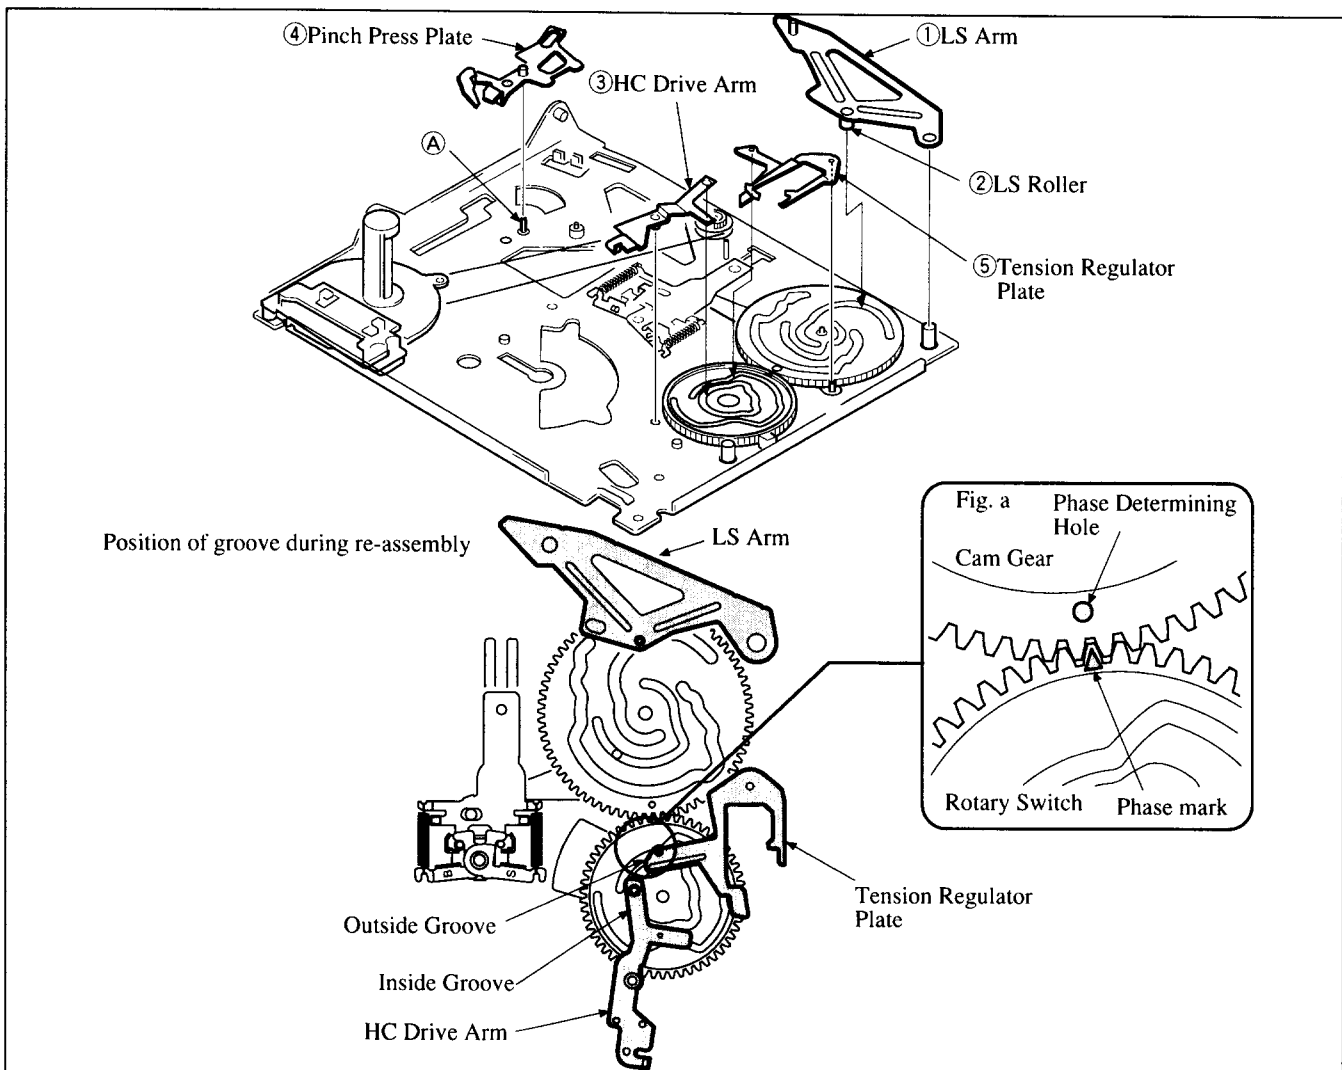

Fig. 19
- 1) Before attaching the Gear A ⑥, coat the Retainer Shaft (E) with grease SG-055G (Ref. No. J-13).
- 3) The HC Drive Arm is easy to drop. Confirm that it is attached referring to Fig. 19.
### 3-13. LS Arm, HC Drive Arm, Pinch Press Plate, Tension Regulator Plate (Refer to Fig. 19)